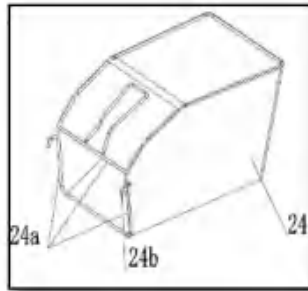

Fig. 4
1. Attach the rubber clips (24a) to the rod (24d) if they are not pre-assembled (Fig. 4).
2. The grass bag (24) is now ready for use (Fig. 4).